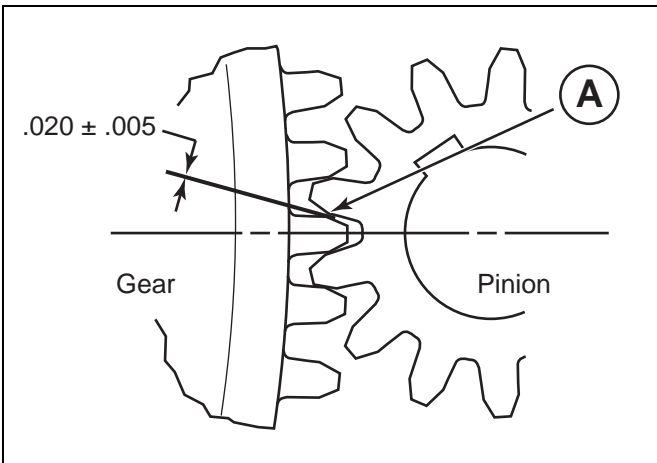

Figure 3.7 Mixer Gear and Pinion
2. After the pulley shaft has been assembled in place on the Mixer, leave the bearing holder bolts loose, then check to be sure there is a $.020 \pm .005$ inch clearance between the pinion and gear as shown in Figure 3.7 at point A. This clearance should be checked at 90° intervals being careful to remain within the tolerances as shown.